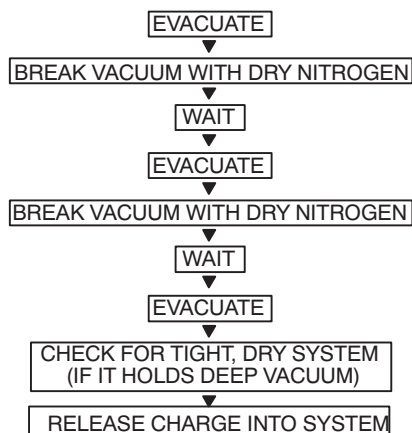

Fig. 49 —Triple Evacuation Method
The triple evacuation method should be used when vacuum pump is not capable of pumping down to 1/4 inch and system does not contain any liquid water. Refer to Fig. 49 and proceed as follows:
5. Repeat this procedure as indicated in Fig. 49. System is now free of any contaminants and water vapor.